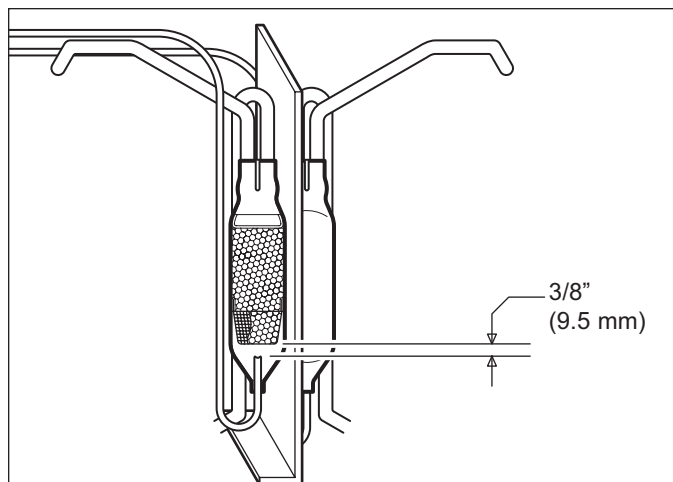

Figure 7-159. Filter-Drier Cut-Away View
**NOTE:** When installing replacement filter-drier, insert capillary tube until it touches screen inside drier, then pull capillary tube away from screen approximately 3/8" before brazing. (See Figure 7-159).